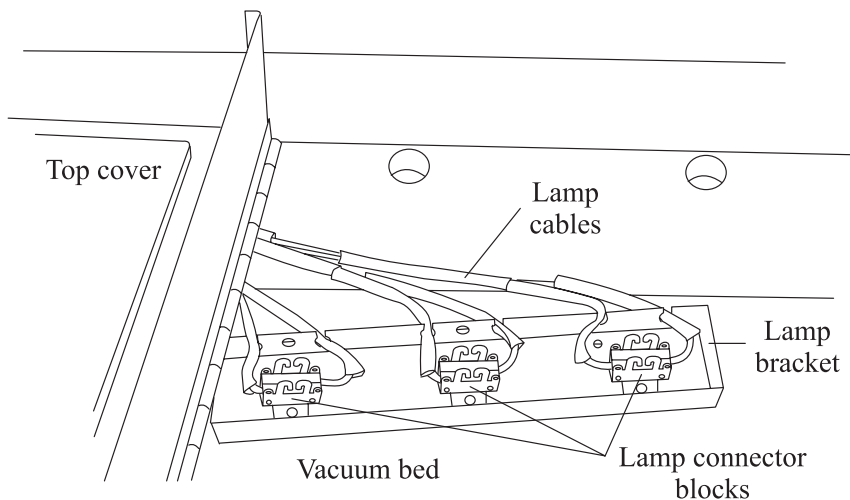

Figure 3
- 2.4. Carefully remove the bracket. Place it onto the vacuum bed with the connectors facing up. See Figure 3.